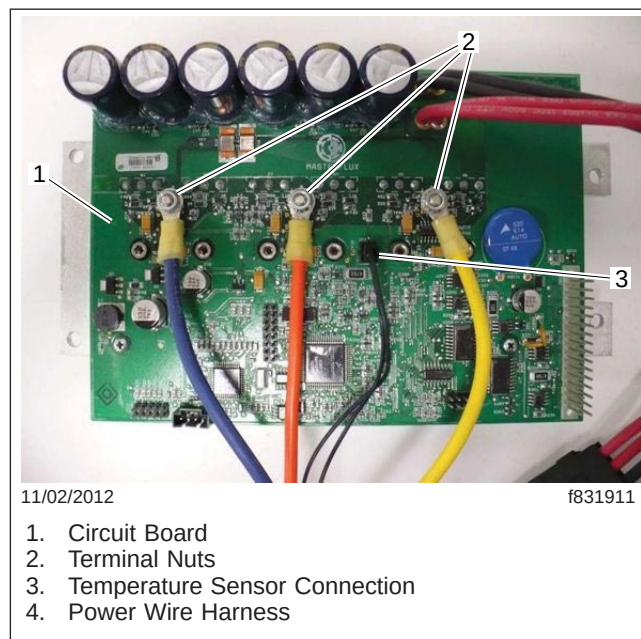

Fig. 9, Circuit Board Wiring
10. Remove the terminal nuts, and disconnect the three phase-wires from the circuit board terminals as shown in Fig. 9.
13. Connect the three phase-wires to the new circuit board terminals as shown in Fig. 9. Install the